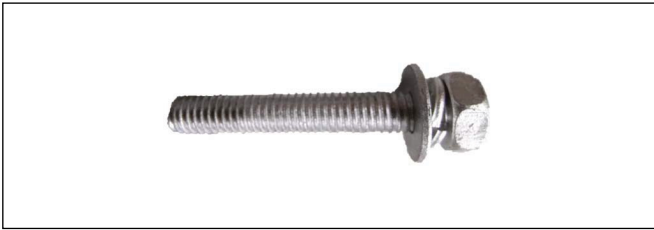

Figure 7
7. Insert screw supplied with the kit into the hole created in step 6 to help separate the control board from the heat sink attached to the unit. Refer to Figure 7, for field supplied screw.